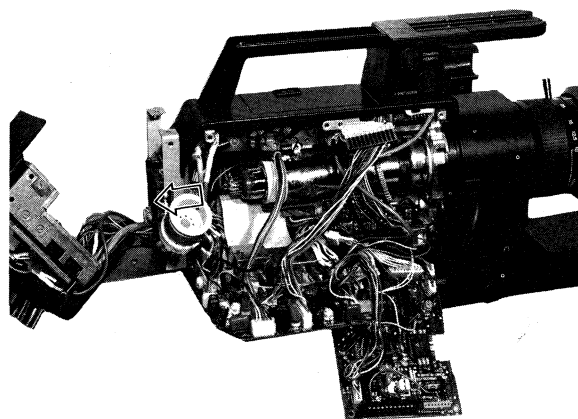

Fig. 3-1-6
- Remove the pick-up tube and deflection coil assembly by pulling it backward. (Fig. 3-1-6)